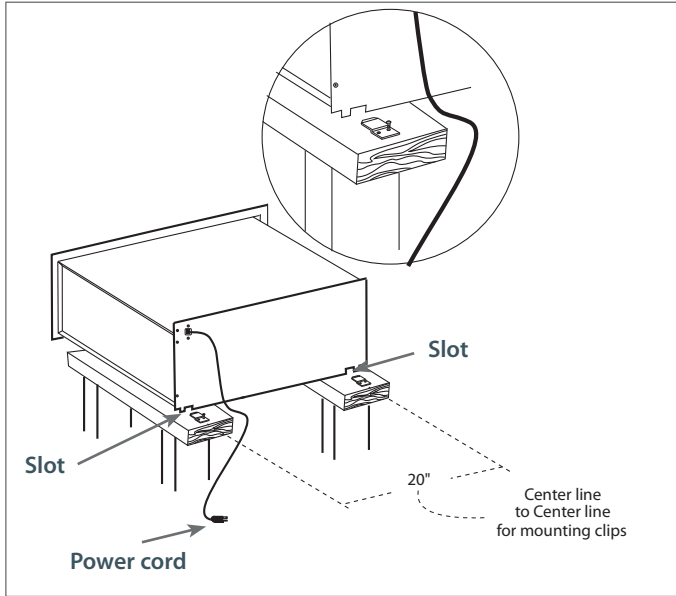

Fig. 12
2. Plug power cord into AC outlet. Slide the body onto the anti-tip mounting clips (see Fig. 12).